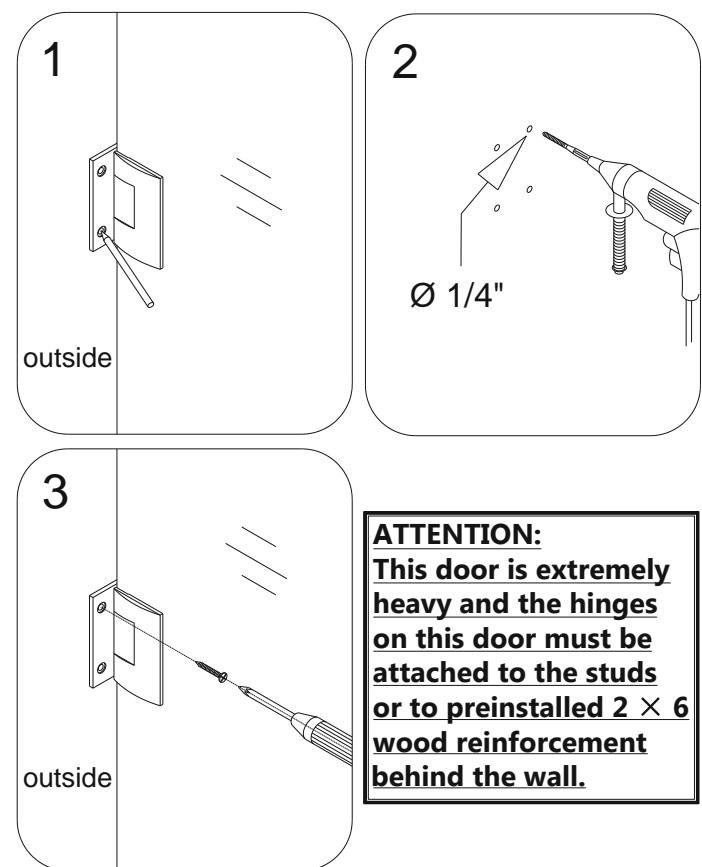
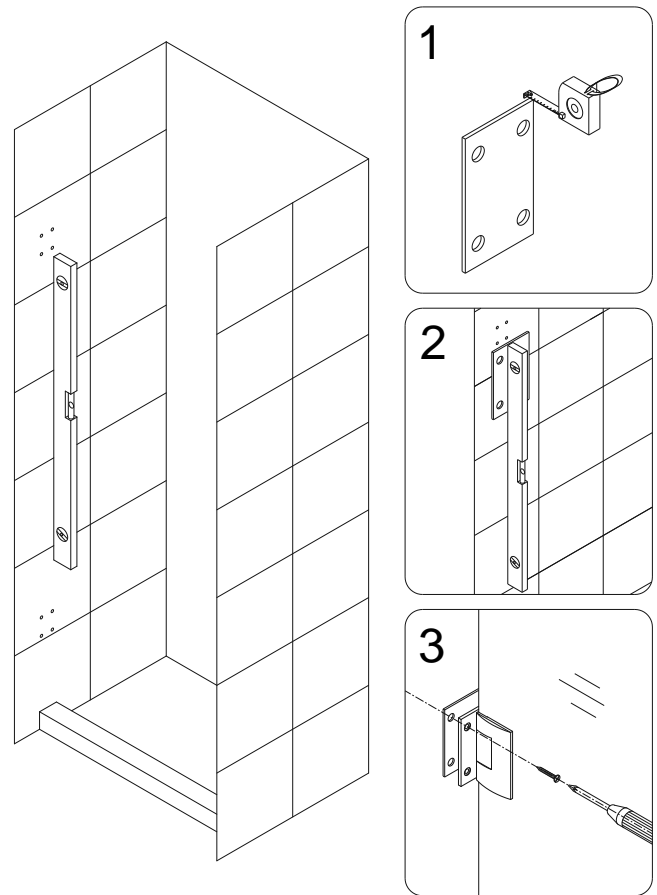

Fig. 3
Fig. 4
The included PVC hinge spacers (31) are provided to compensate for minor out-of-plumb wall conditions. Use only as necessary as their use could compromise the opening size of your shower. Please see Fig 4 for an installation example*.
4. Place the **Door Glass (01)** back onto the threshold along with the 5/8" spacers and attach both hinges to the wall with two **Countersunk screws ST5×70 (04)** on the hinge from outside of the shower. Then open the door and install the remaining screws to both wall plates from the inside.
(Fig 3 and Fig 4)